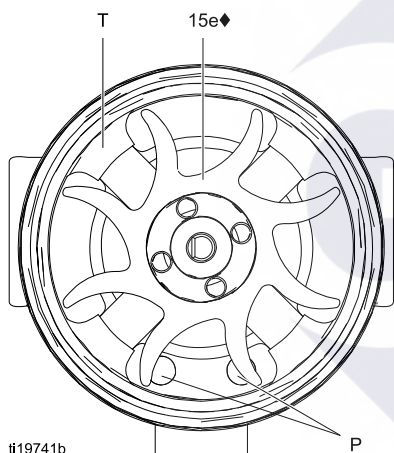
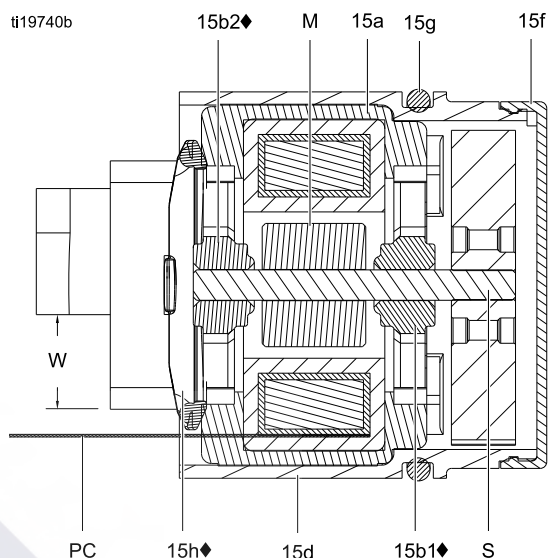

Figure 34 Fan Orientation
Figure 35 Alternator Cross-Section
12. Hold the coil assembly (15a) on a workbench with the fan end facing up. Press the fan (15e♦) onto the long end of the shaft (S). The fan blades must be oriented as shown.
13. Carefully press the coil assembly (15a) into the front of the housing (15d♦). The 3-wire connector (PC) must be positioned below the wider notch (W) of the housing tabs, as shown in Fig. 35. Be sure the coil alignment pins (P) are positioned as shown in Fig. 34.
14. Rotate the fan (15e) so its blades clear the four bearing tabs (T) at the back of the housing. Ensure that the blades of the bottom bearing (15b1♦) align with the tabs.